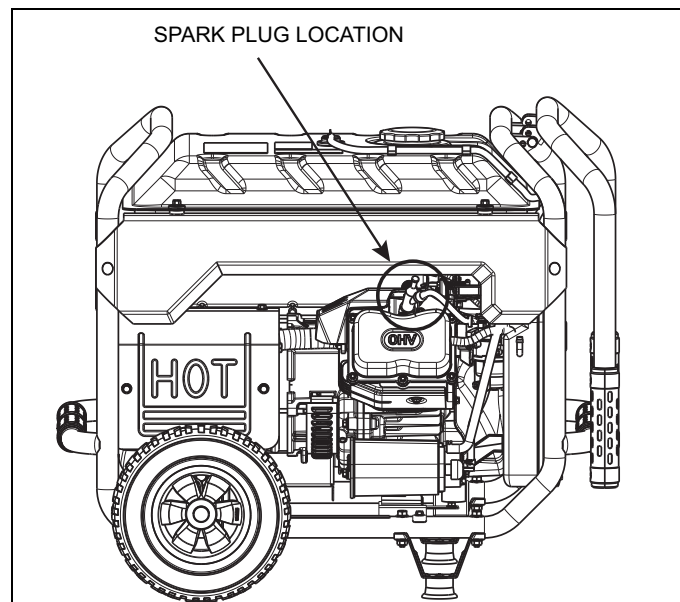

Figure 4-3. Spark Plug Location
2. Remove the spark plug boot from the plug and clean that area of the cylinder head. The spark plug is located on the side of the generator shown in Figure 4-3.